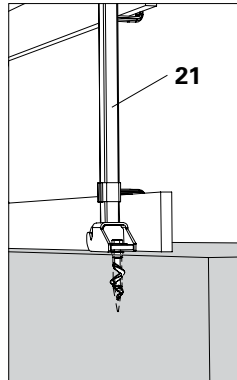

Fig. A7.05a
- Tighten and slightly tension the Bolt M16 x 120 (24) together with Washer ISO 7094 100 HV, A16 (25). (Fig. A7.05a + A7.05b + A7.06)